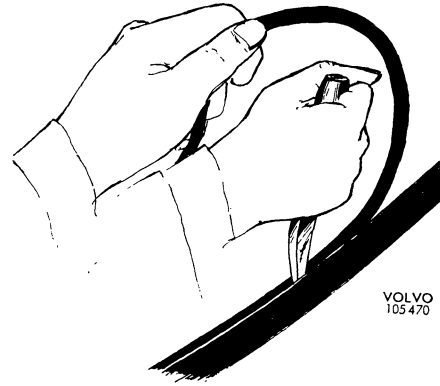

Fig. 8-37. Cutting windshield rubber stripping
3. Cut up the rubber stripping along the groove for the trim moulding and remove the cut rubber so that the windscreen is uncovered there (Fig. 8-37).